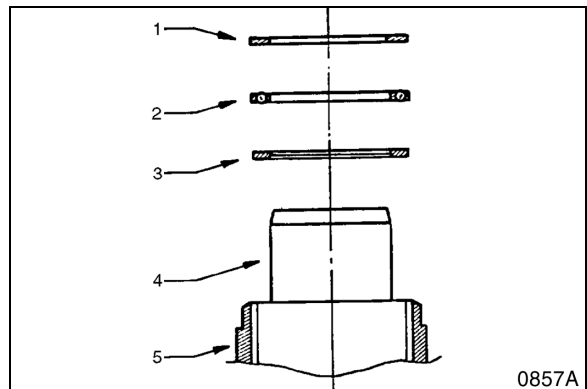

Figure 42
9. Assemble bearing races and needle bearing as shown in Figure 41 and Figure 42.